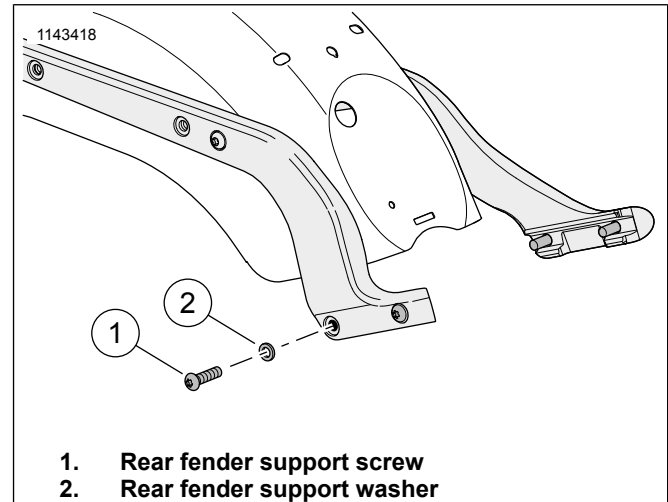

Figure 1. Hardware Removal
2. See Figure 1. Remove screw (1) and washer (2) from indicated position on rear fender support.
3. Discard screw (1) and save washer (2) for later use. This location is where the upper part of the saddlebag guard will mount.
- 8. See Figure 1. Torque screw that secures saddlebag guard top flange (see step 4). Tighten.